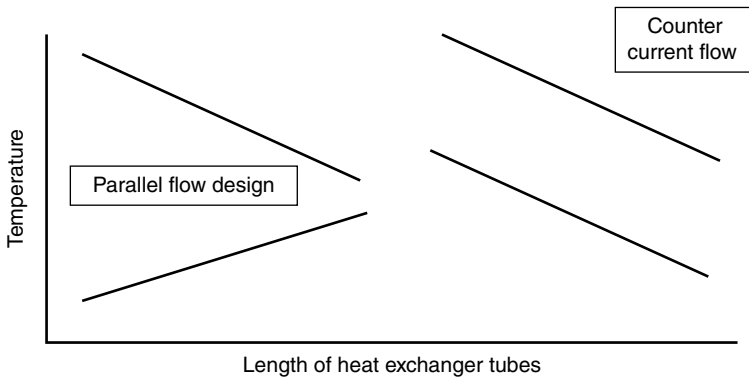

Figure 8.6 Cocurrent versus countercurrent temperature profiles.
- 2) The difference in profiles of the fluid temperatures will be quite different, since with cocurrent flow, it is not possible for either the hot or cold fluid to achieve more than their “average” temperature. The temperature profiles within these two different types of exchangers would be as shown in Figure 8.6.